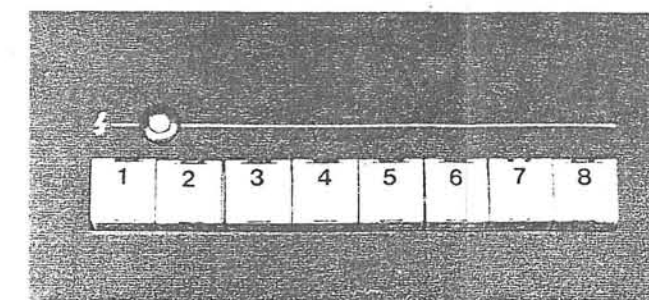

Fig. 47
15. Set flash intensity using the flash intensity selector switch. (Fig. 47) Although flash intensity actually required depends very much on film developing conditions and condition of the examinee's eye, the following table makes an acceptable guide.